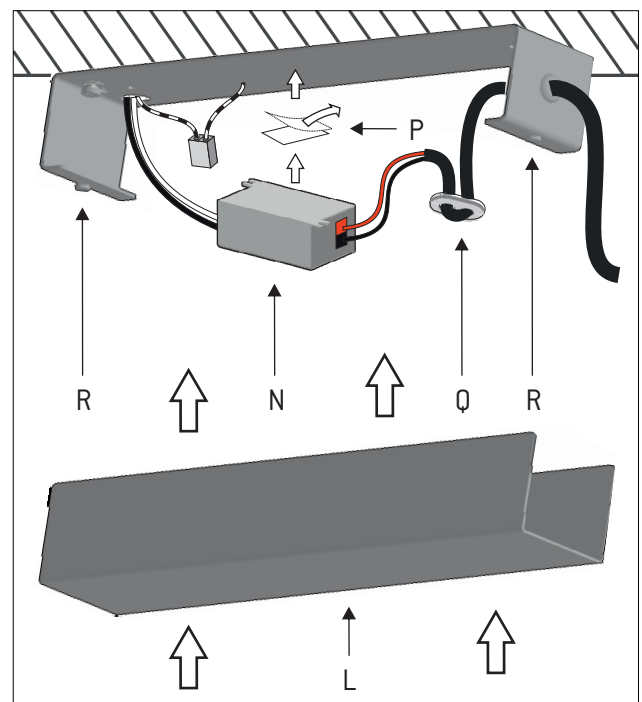

Figure 9
9 - Connect the driver (N) to the electrical cable from the ceiling and fix it to the mounting bracket with double faced tape (P). Pass the electrical cable of the lamp through the lateral hole of the mounting bracket. Adjust the cable to the desired length and fix it using the cable ties (Q). Cut the excess cable and make the electrical connections. Place back the canopy (L) and make sure that it is fixed with the mounting bracket through the magnets (R). Figure 9